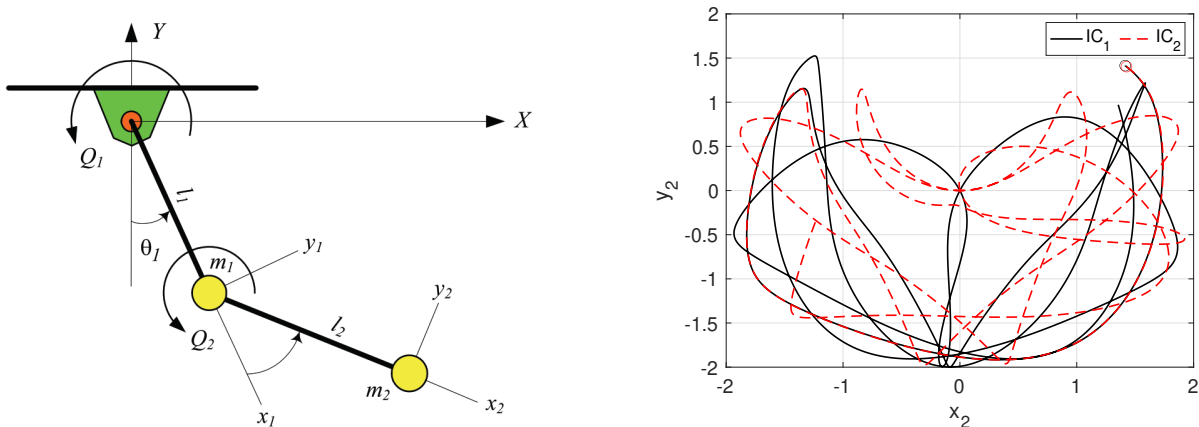

Figure 1: Schematic and results plot for Problem 1.
1. Consider the (double pendulum) planar robot in Fig. 1, where  $Q_i$  represent the torque at the  $i^{\text{th}}$  joint.